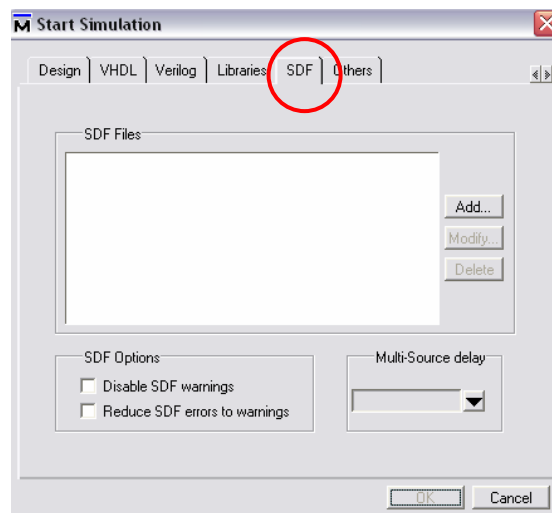

Figure 10: GUI-Starting timing simulation
- In the **Start Simulation dialog box** click on **SDF** tab and click on **Add** (highlighted in red in figure 10);